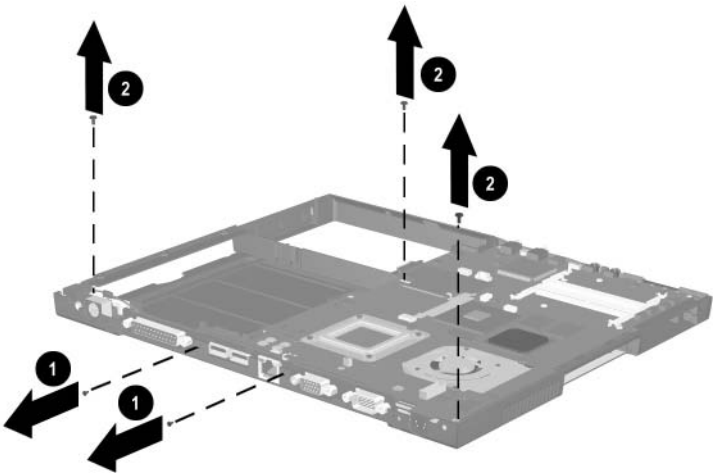

Figure 5-23. Removing the System Board Screws on Evo Notebook N620c, N610c, and N610v Models
6. Remove the two TM2.5 × 5.0 screws ❶ that secure the system board to the base enclosure through the rear panel (Figure 5-23).
7. Remove the three TM2.5 × 5.0 screws ❷ that secure the top cover to the base enclosure.